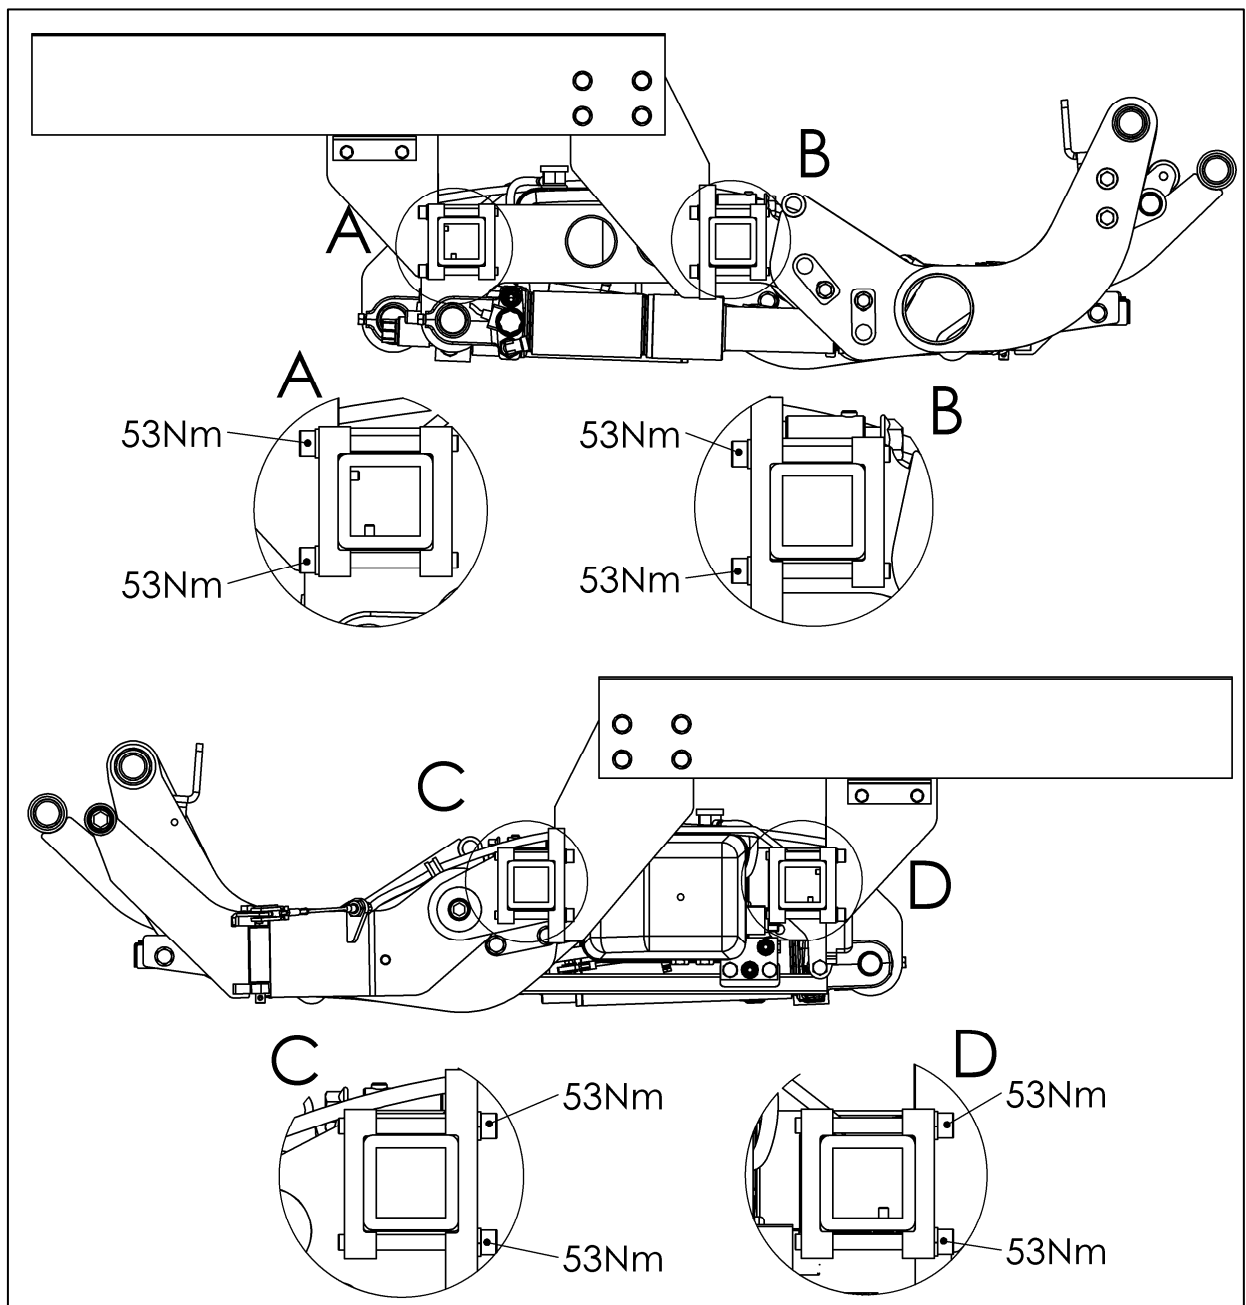

Fig. 31
- Secure the installation adapters to the lifting gear and tighten to the specified torque of **53 Nm** (see Fig. 31).